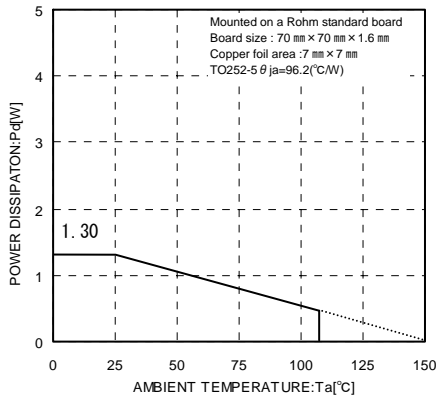
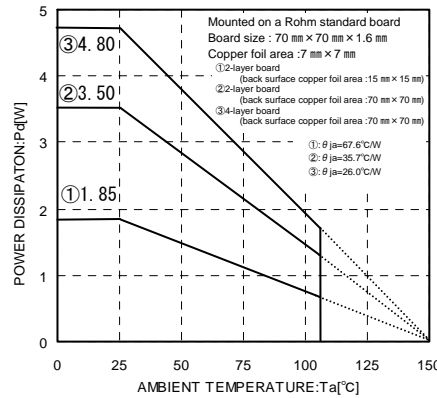

Fig.26
Fig.27(Reference data)
When using at temperatures over  $T_a=25^{\circ}\text{C}$ , please refer to the heat reducing characteristics shown in Fig.26 and Fig.27. The IC characteristics are closely related to the temperature at which the IC is used, so it is necessary to operate the IC at temperatures less than the maximum junction temperature  $T_{j\text{max}}$ .
Fig.26 and Fig.27 show the acceptable loss and heat reducing characteristics of the TO252-5 package. Even when the ambient temperature  $T_a$  is a normal temperature ( $25^{\circ}\text{C}$ ), the chip (junction) temperature  $T_j$  may be quite high so please operate the IC at temperatures less than the acceptable loss  $P_d$ .
The calculation method for power consumption  $P_c(\text{W})$  is as follows : (Fig.27③)
$$I_o \leq \frac{2.496 - 10 \times I_b}{5} \quad \left[ \begin{array}{l} \text{Fig.27③: } \theta_{ja}=26.0^{\circ}\text{C/W} \rightarrow -38.4\text{mW}/^{\circ}\text{C} \\ 25^{\circ}\text{C}=4.80\text{W} \rightarrow 85^{\circ}\text{C}=2.496\text{W} \end{array} \right]$$